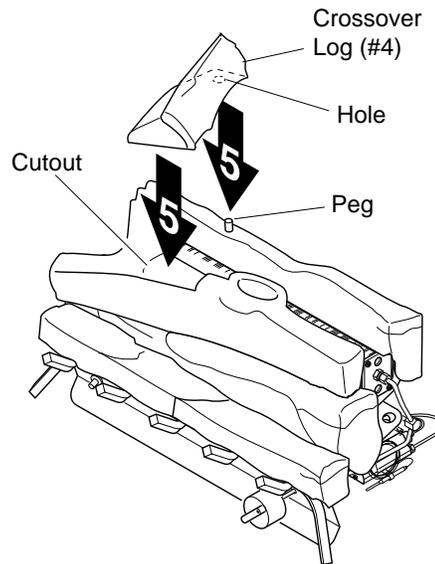

Figure 26 - Installing Crossover Log (#5)
- Place the crossover log (#5) on the back log and the top middle log. Make sure the peg on the rear log is in the hole in the bottom of the crossover log. The crossover log should fit in the cutout of the top middle log (see Figure 26).